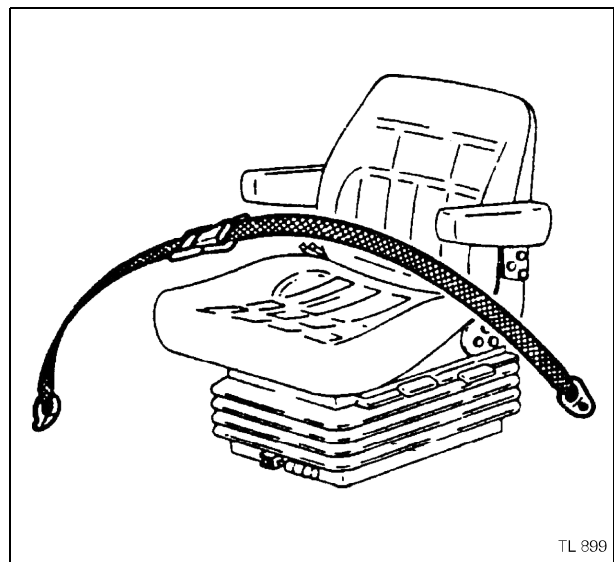

Fig. 5
- Check the seat belt for damage. A damaged seat belt must be replaced (Fig. 5).
- Check ROPS and seat belt for damage. A damaged ROPS or seat belt (see Fig. 5) **MUST** be replaced.